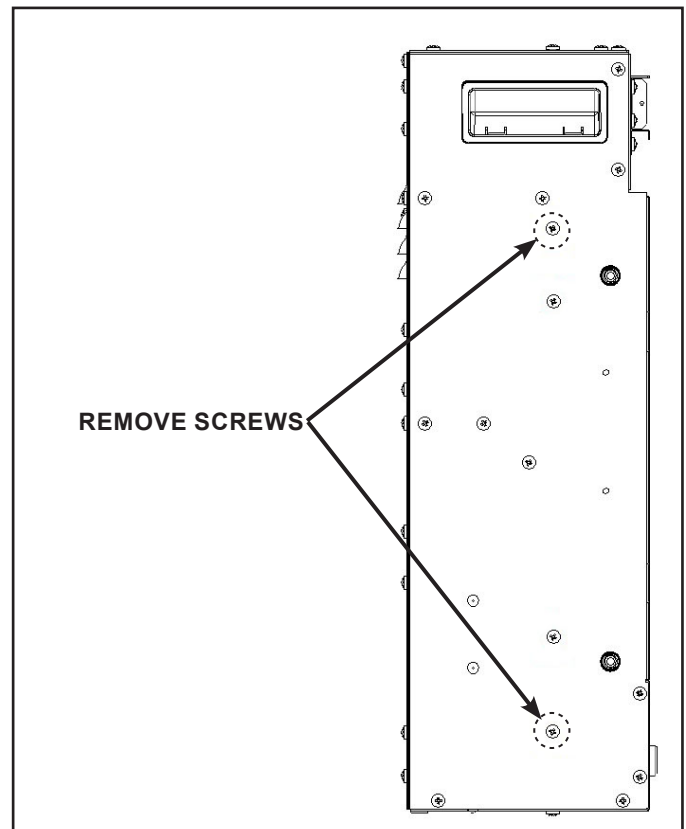

Figure 1 Remove Screws from Side Panels
1. Remove the two screws on each side of the appliance. See Figure 1.